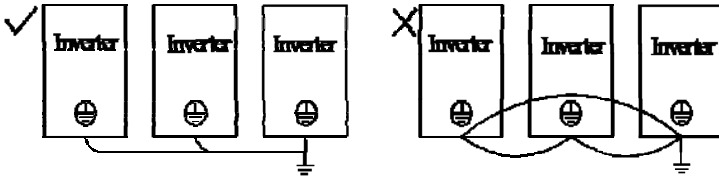

Figure 3-10 Ground Wiring
- Do not form the grounding cable as a circuit whenever two or more inverters are used synchronously. See Figure 3-10 for the correct and incorrect grounding wirings.